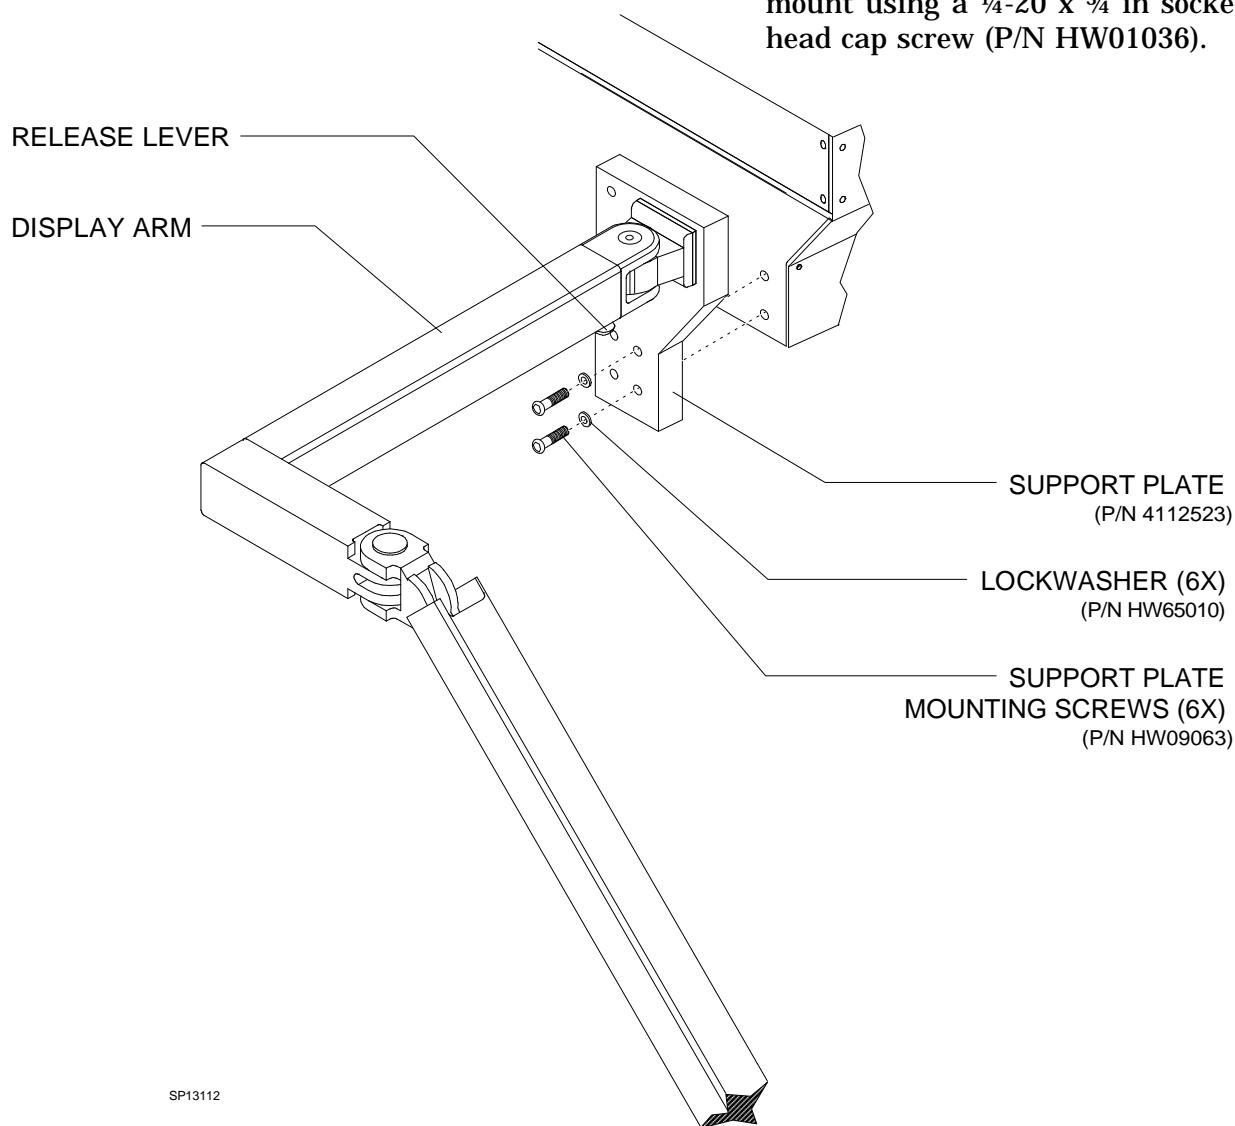

Figure 12: DISPLAY ARM INSTALLATION
53. Position the adjustable display arm at the left side of the machine, and install six (some machines may use four) ¼-20 x 7/8 in. btn hd socket screws and lockwashers as shown in Figure 12.